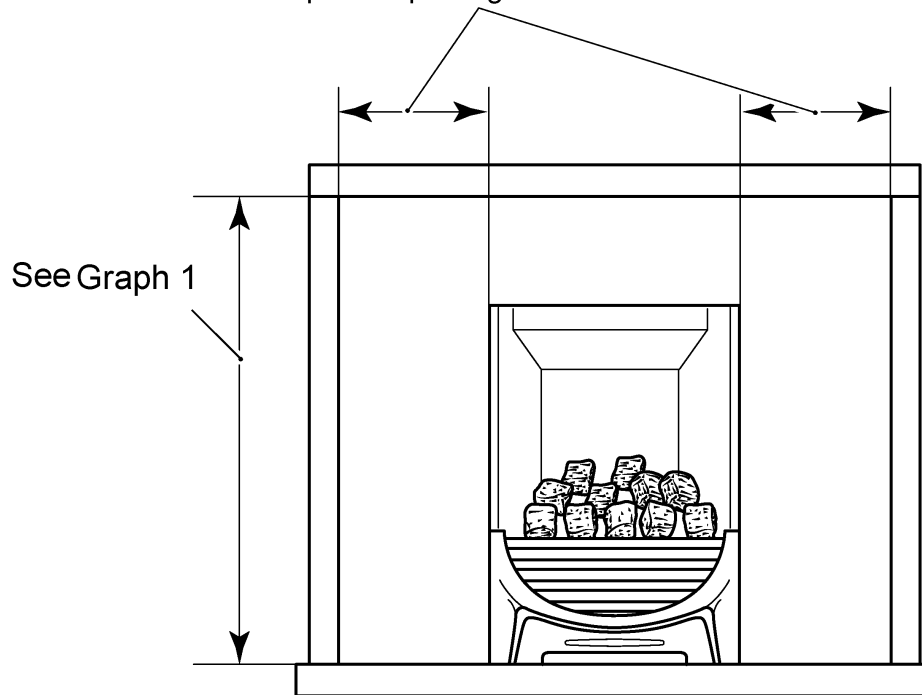

Figure 4. Appliance Clearances.
4.14 Combustible side projections up to 75mm forward of the fixing plane of the fire are to be a minimum of 125mm from the fireplace opening (See figure 4)
4.14.1 Combustible side projections greater than 75mm forward of the fixing plane of the fire are to be a minimum of 178mm from the fireplace opening (See figure 4).
4.14.2 Non-combustible side projections to be 75mm from the fireplace opening (See figure 4)